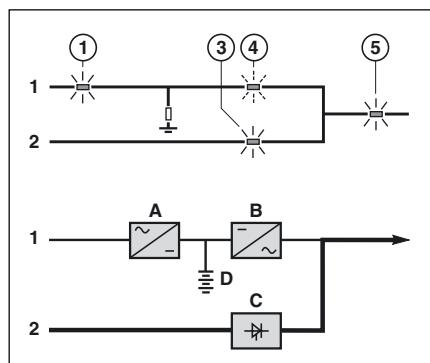

Fig. 11
See figure 11.
► no battery discharge (see figure 11). When bypass AC source power supply (2) is restored or returns to within specified tolerances, the load is transferred back to the static bypass (C), without an interruption in the supply of power.